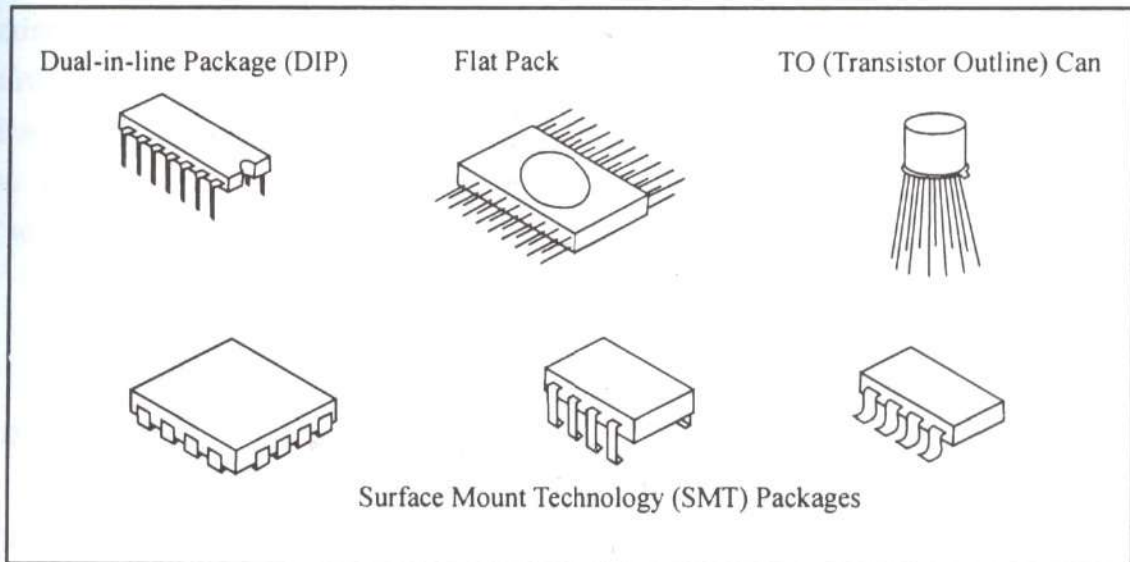

Figure 7-2. Semiconductor Integrated Circuits (ICs).
Although semiconductor diodes and transistors are still widely used as individual or **discrete components**, in 1959 Robert Noyce discovered that more than one transistor could be constructed on a single piece of semiconductor material. Soon other components such as resistors, capacitors, and diodes were added with transistors and then interconnected to form a complete circuit on a single chip or piece of semiconductor material. This integrating of various components on a single chip of semiconductor material was called an *integrated circuit (IC)* or *IC chip*. Today the IC is used extensively in every branch of electronics with hundreds of thousands of transistors and other components being placed on a chip of semiconductor material no bigger than this ■. Figure 7-2 illustrates some of the different types of integrated circuits.